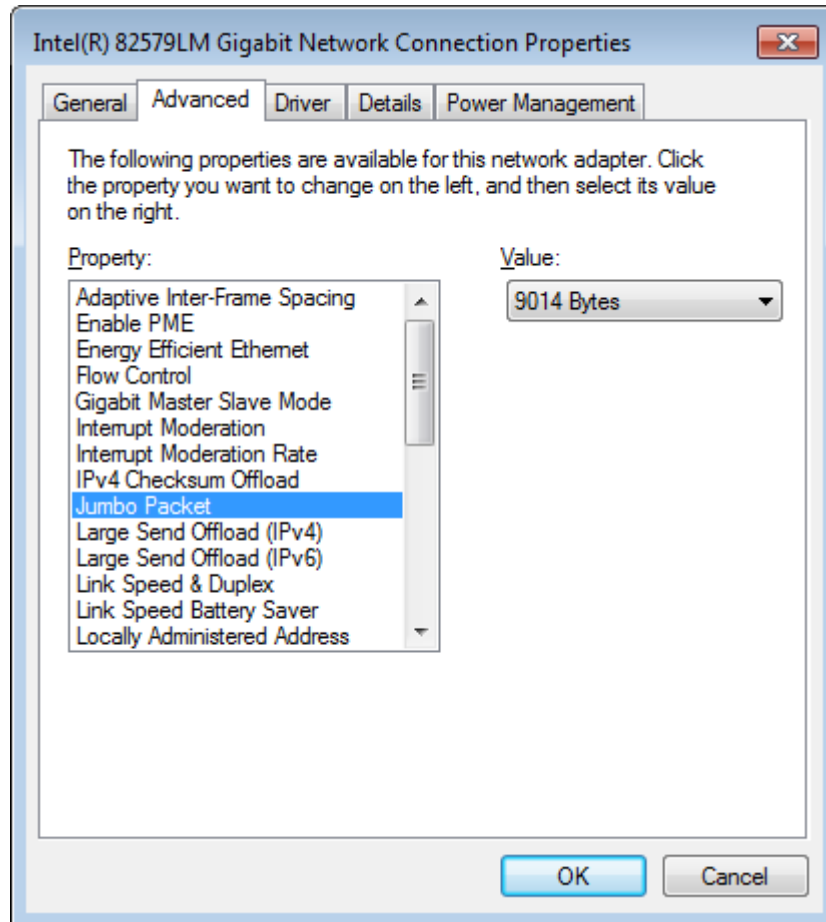

Figure 117: Network interface card - advanced driver settings - Jumbo Packets
4. The settings of the driver can be accessed by choosing the *Advanced* tab of the opened window. As shown in Figure 117, raise the value of the *Jumbo Packet* property to its maximum value.